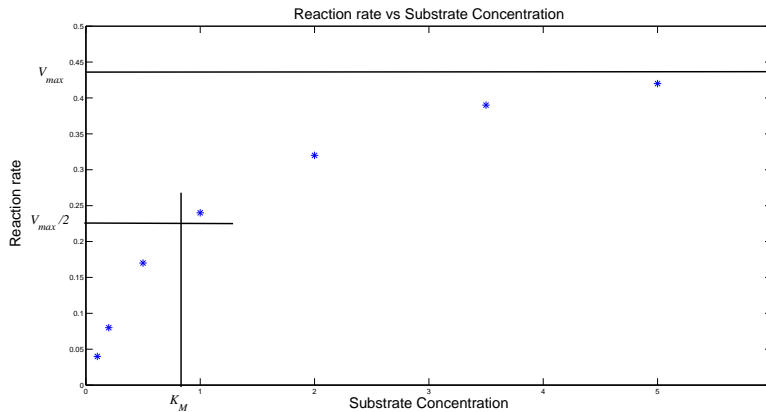

Figure 2.2 Graphical estimation of  $V_{max}$  and  $K_M$
- a. The plot indicates that the relationship between the reaction rate and the substrate concentration goes to saturation in a M-M-like behavior, see Fig.2.2.  $V_{max}$  and  $K_m$  are estimated as shown in the plot.